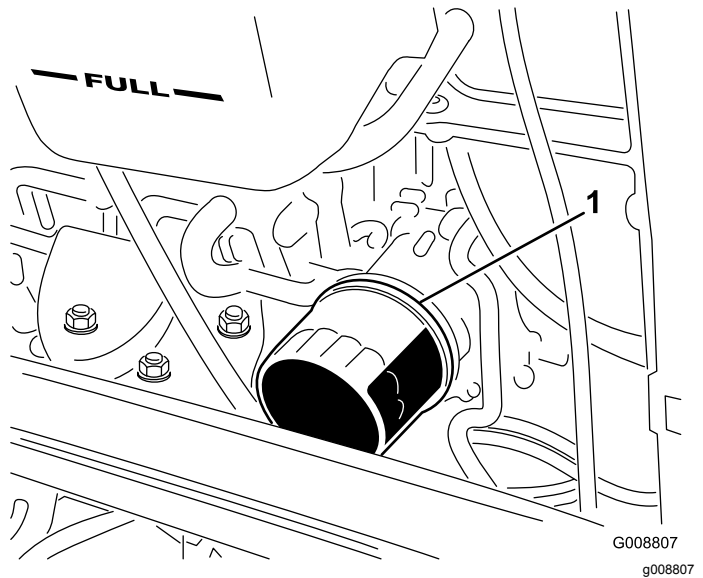

Figure 37
2. Remove the oil filter (Figure 37).